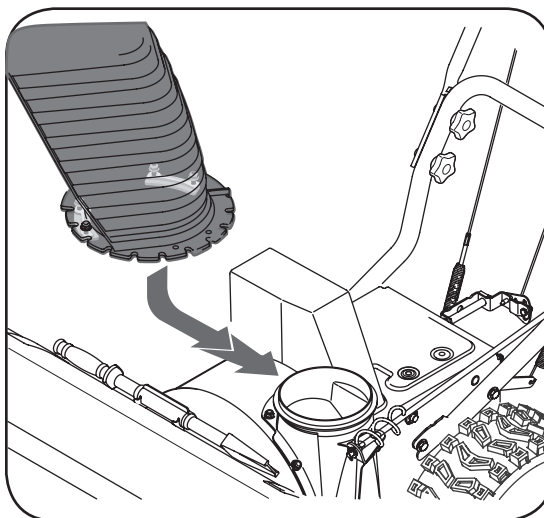

Figure 3-4
5. Place chute assembly onto chute base as shown in Figure 3-4, making sure that the notches engage with the spiral end of chute directional control.